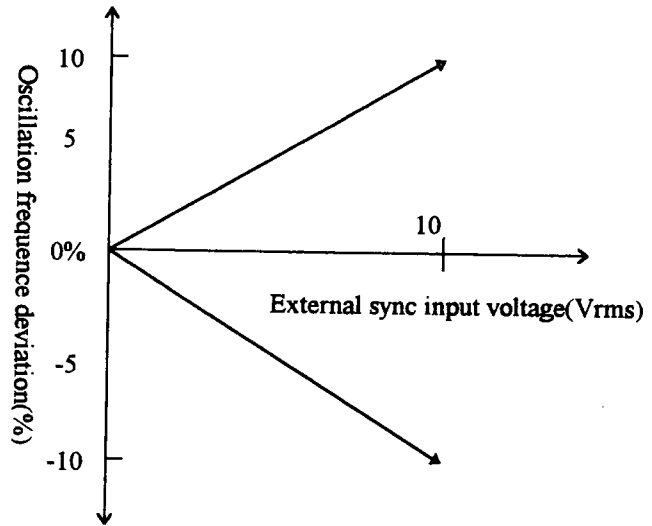

Fig.3
1. Connect a voltmeter capable of measuring AC 1V rms to OUTPUT terminal (4); Set ATTENUATOR (3) to 0dB and then adjust AMPLITUDE (7) until the voltmeter indicates 1V rms. A voltage of 1V rms will appear at OUTPUT terminal (4).
2. Set ATTENUATOR (3) to -40dB. The voltmeter indicates about 0V, while a voltage of 10mV rms appears at OUTPUT terminal (4).
5. Use of Synchronizing Input Terminal By applying an external sine wave signal to SYNC terminal (10), the oscillating frequency of instrument can be synchronized to the external signal. The synchronizing range is increased in proportion as the input voltage is increased as shown in Fig.3, indicating that the synchronizing range is about  $\pm 1\%$  per input voltage of 1V.